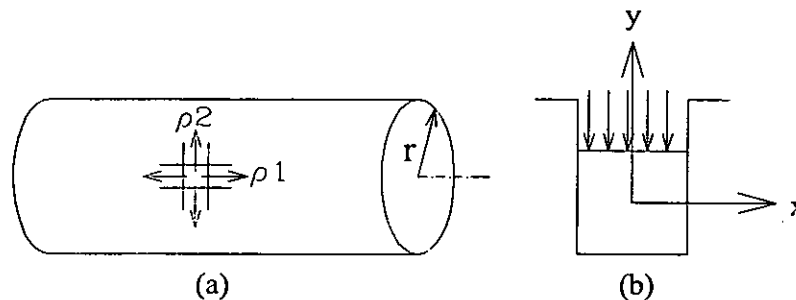

Fig. 3
- (c) The thin-walled cylindrical tank in Fig. 3(a) is subjected to internal pressure, $p = 70 \text{ N/cm}^2$. If the mean radius r of the tank is 50 cm and wall thickness $t = 3 \text{ cm}$,
- (d) A hard rubber block completely confined in the x -direction but free in both the y - and z -directions is subjected to compressive stress $\sigma_y = -200 \text{ N/cm}^2$ in the y -direction as shown in Fig. 3(b). If Young's Modulus $E = 200 \text{ N/cm}^2$ and Poisson's ratio $\mu = 0.5$, calculate the stress, σ_x in the x -direction. 4